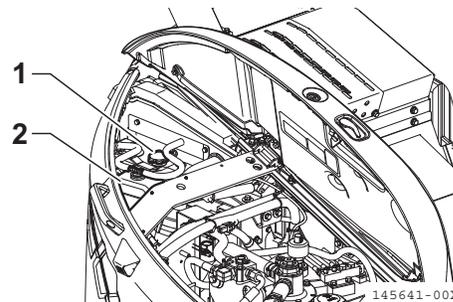

Fig. 8-76
5. Open the front cover (right), and slowly turn the radiator cap (**Fig. 8-76, 1**) to remove.
7. Remove the cooling water sub-tank (**Fig. 8-76, 2**), and drain the cooling water from the sub-tank.
8. Reinstall the cooling water sub-tank (**Fig. 8-76, 2**), and add the cooling water up to the FULL line.
10. To bleed the air from the cooling water system, allow the engine to run at low idle speed for 5 to 6 minutes and then at high speed without load for additional 5 to 6 minutes. [While the engine is running, keep the radiator cap (**Fig. 8-76, 1**) removed.]
11. Approximately 5 minutes after stopping the engine, pour the cooling water into the radiator through the water supply port up to almost the port opening, and securely tighten the radiator cap (**Fig. 8-76, 1**).
12. Check the level in the sub-tank (**Fig. 8-76, 2**), and if it is below the FULL line, pour the cooling water.